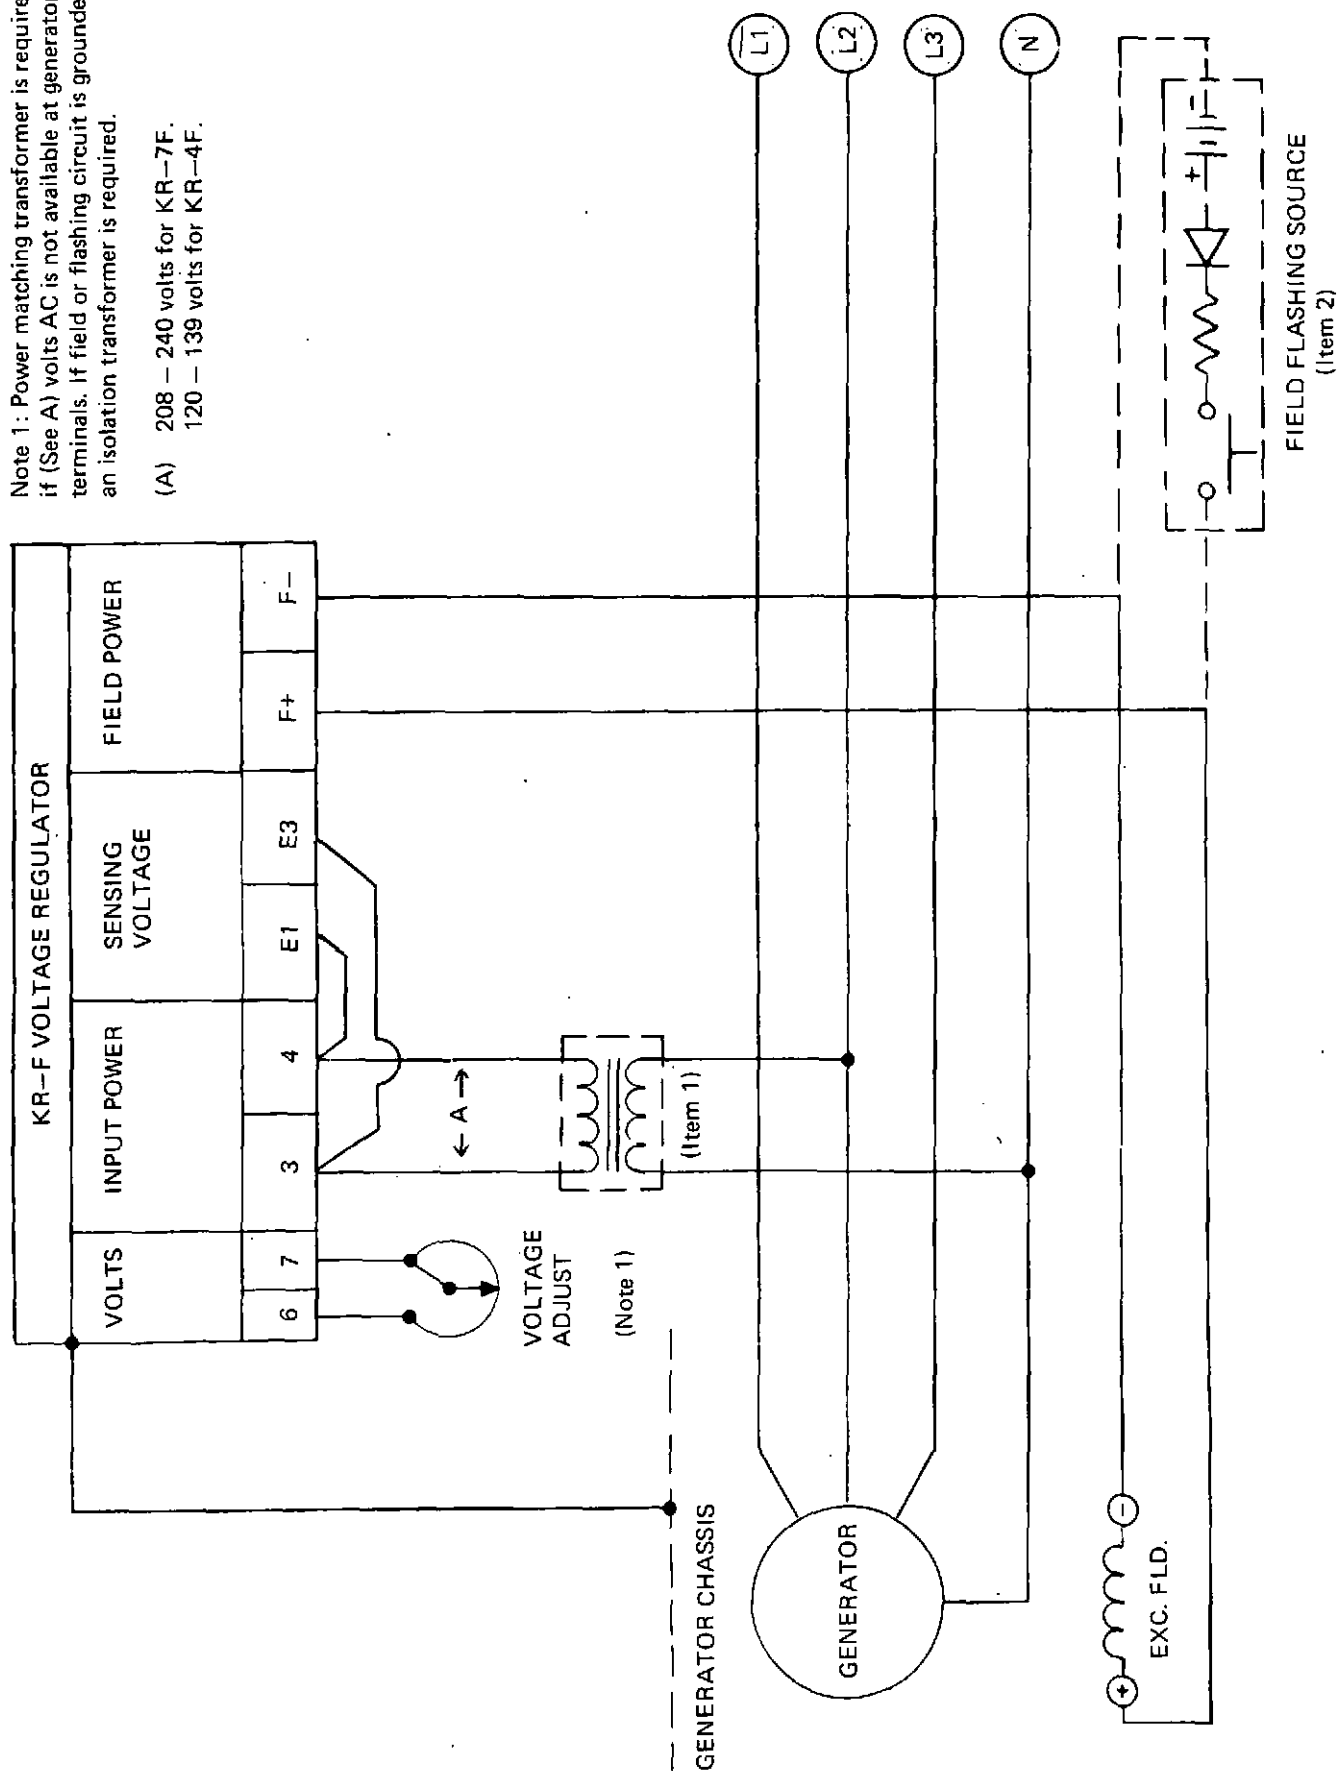

Figure 13. Schematic and connection diagram.
Generator or regulator defective.	If permanent field flashing is desired, connect as shown by Item 2, Figure 13, Page 22. (Always limit the flashing current to less than 50 percent of the no-load field current.) Diode must have a minimum rating of 15 amp, 800 volt, PIV. If field or flashing source is grounded, an isolation transformer is also required. (See Item 1, Figure 13, Page 22.) Without the transformer, a ground in the generator output will blow fuse F1 in the regulator and possibly destroy the control rectifier bridge in the voltage rectifier. To determine whether the problem is in the voltage regulator or generator, disconnect the voltage regulator. With the generator running at rated speed, apply a DC voltage to the exciter field. Approximately 12 volts DC on the exciter field will produce about one-half the rated AC output voltage (no load on generator.) If this AC voltage is obtained, the problem is in the voltage regulator. If not, or if a low AC voltage is obtained, the problem is in the generator or rotating rectifier assembly.
5. For four lead generator, refer to Figure 13.
- For four lead generator, refer to Figure 13.